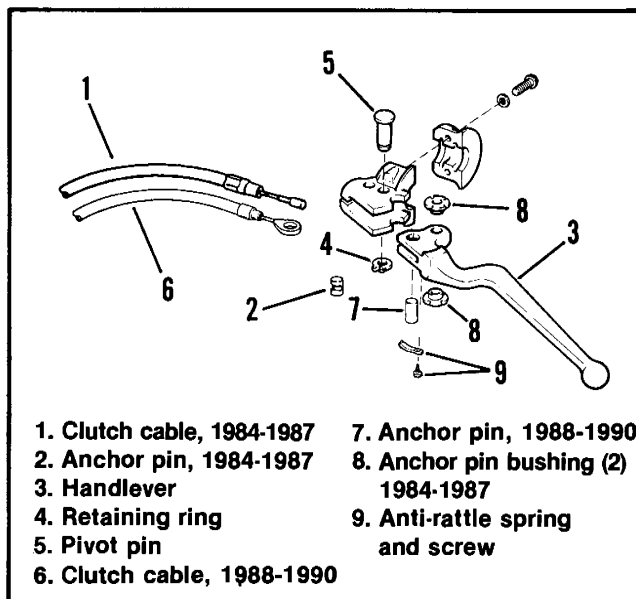

Figure 2-96. Clutch Cable Installation
2. See Figure 2-96. Remove the clutch cable (1) and anchor pin (2) from the hand lever (3). To remove anchor pin, it will be necessary to remove the retaining ring (4) and pivot pin (5).
1. See Figure 2-96. Remove the clutch cable (1 or 6) and anchor pin (2 or 7) from the hand lever (3). To remove anchor pin, it will be necessary to remove the retaining ring and pivot pin.
1. See Figure 2-96. Place a few drops of oil inside the cable housing. Wipe any dirt off anchor pin and plastic sleeves. Lube anchor pin with ANTI-SEIZE. Install the clutch cable and anchor pin to the clutch hand lever. The slot in the pin must face toward the handlebar. Install pivot pin through bracket and hand lever and secure with retaining ring.
14. See Figure 2-96. On 1988 and later models, anchor pin (7) does not require lubrication. Place a few drops of oil inside cable housing.
15. Insert anchor pin (7) through handle (3) and clutch cable end (6).
16. Place handle in bracket and install pivot pin (5) and retaining ring (4).